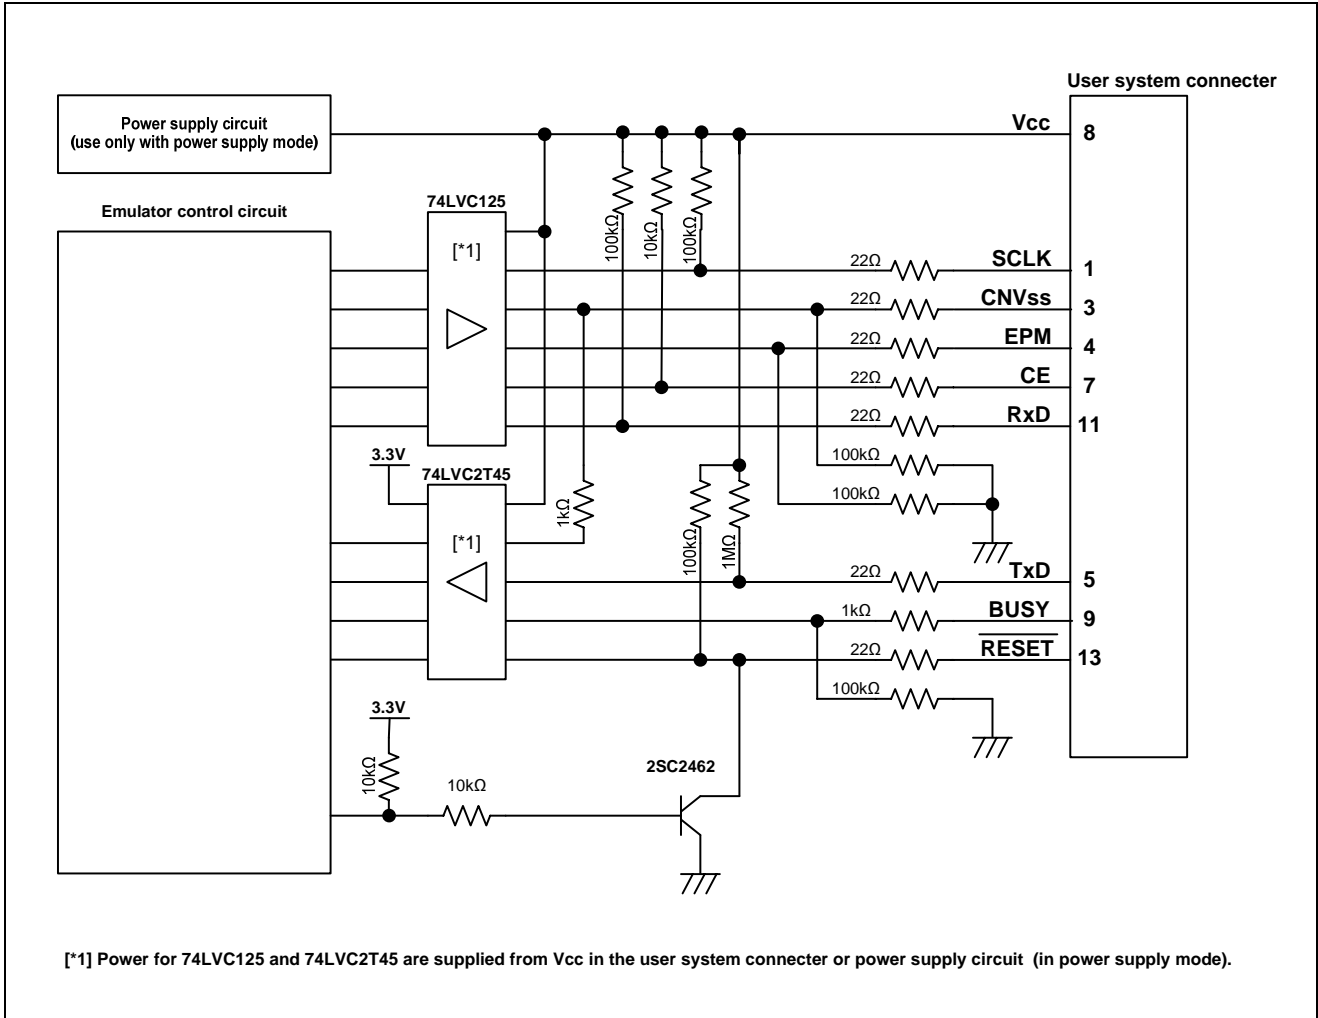

Figure 5.12 Interface Circuit Inside the E8a Emulator (For Reference)
1. Pins P64, P65, P66 and P67 are used exclusively by the E8a emulator. Connect the E8a emulator to the MCU pins. Connect pins P66 and P67 to the E8a emulator after pulling up the MCU pins at the Vcc (Vcc1) level. For P64 and P65, pull up the pins at the Vcc (Vcc1) level or pull down them according to the MCU pin state after disconnecting the E8a emulator. P64 may be in a Hiz state while the E8a emulator is active. Therefore, set the pin resistance value so the voltage cannot be at the midpoint potential, depending on the voltage dividing of the resistance inside the E8a emulator (Figure 5.12).
For P50 and P55, pull up the pins at the Vcc level or pull down them according to the MCU pin state after disconnecting the E8a emulator. P50 and P55 may be in a Hiz state while the E8a emulator is active. Therefore, set the pin resistance value so the voltage cannot be at the midpoint potential, depending on the voltage dividing of the resistance inside the E8a emulator (Figure 5.12).
Pull up P55 at the Vcc2 level or pull down it according to the MCU pin state after disconnecting the E8a emulator. P55 may be in a Hiz state while the E8a emulator is active. Therefore, set the pin resistance value so the voltage cannot be at the midpoint potential, depending on the voltage dividing of the resistance inside the E8a emulator (Figure 5.12).
9. Figure 5.12 shows the interface circuit in the E8a emulator. Use this figure as a reference when determining the pull-up resistance value.